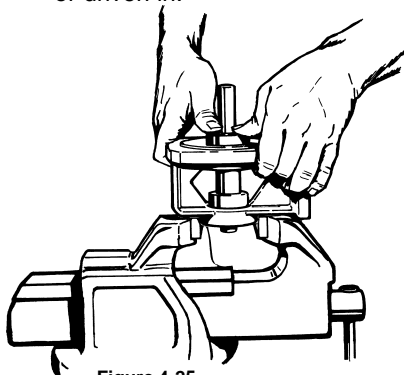

Figure 4-25
- Place the pedestal, pump mounting surface up, in a vise or suitable fixture and insert the bearing assembly. It should be possible to install the shaft assembly with firm thumb pressure. Refer to Figure 4-25. If more force is required, the butt